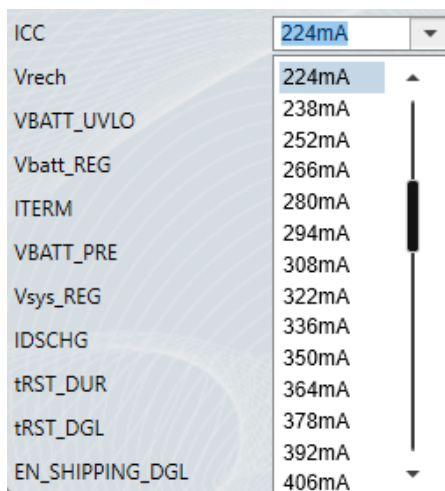

Figure 8: Fast Current Charge Setting
4. Figure 8 shows the fast charge current setting. Set the fast charge current to 224mA (the range is 16mA to 896mA).